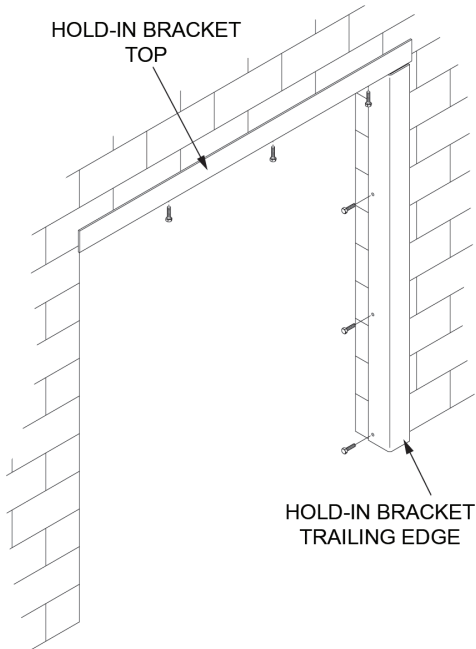

Figure 10: Gasket Retainer/Hold-In Bracket Assembly
8. Manually move door to ensure it slides freely. Install top and side hold-in brackets in the door opening (Figures 10, 11, & 12). Faces of jambs need to be solid enough to support installing hold-in brackets. If not, add capping or other support to the opening.
10. Manually move door to ensure it slides freely. Adjust position of hold-in brackets as needed. Tighten hold-in bracket mounting screws (Figure 10).